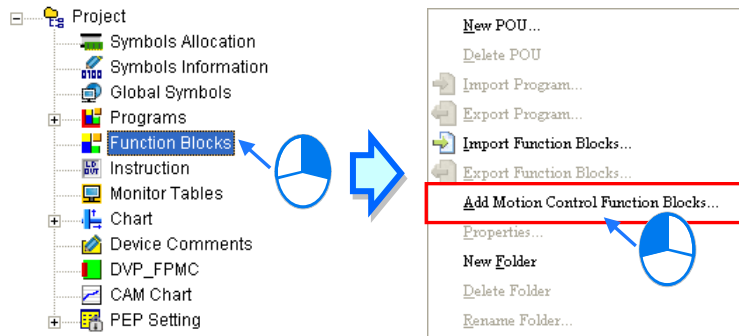

Figure 13-21 Adding motion control function blocks
- (3) The users can right-click **Function Blocks** in the system information area, and click **Add Motion Control Function Blocks...** on the context menu which appear, as shown in figure 13-21.